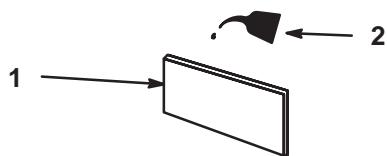

Figure 21
- Soak the element in new engine oil. (Fig. 21). Squeeze the element to remove excess oil.